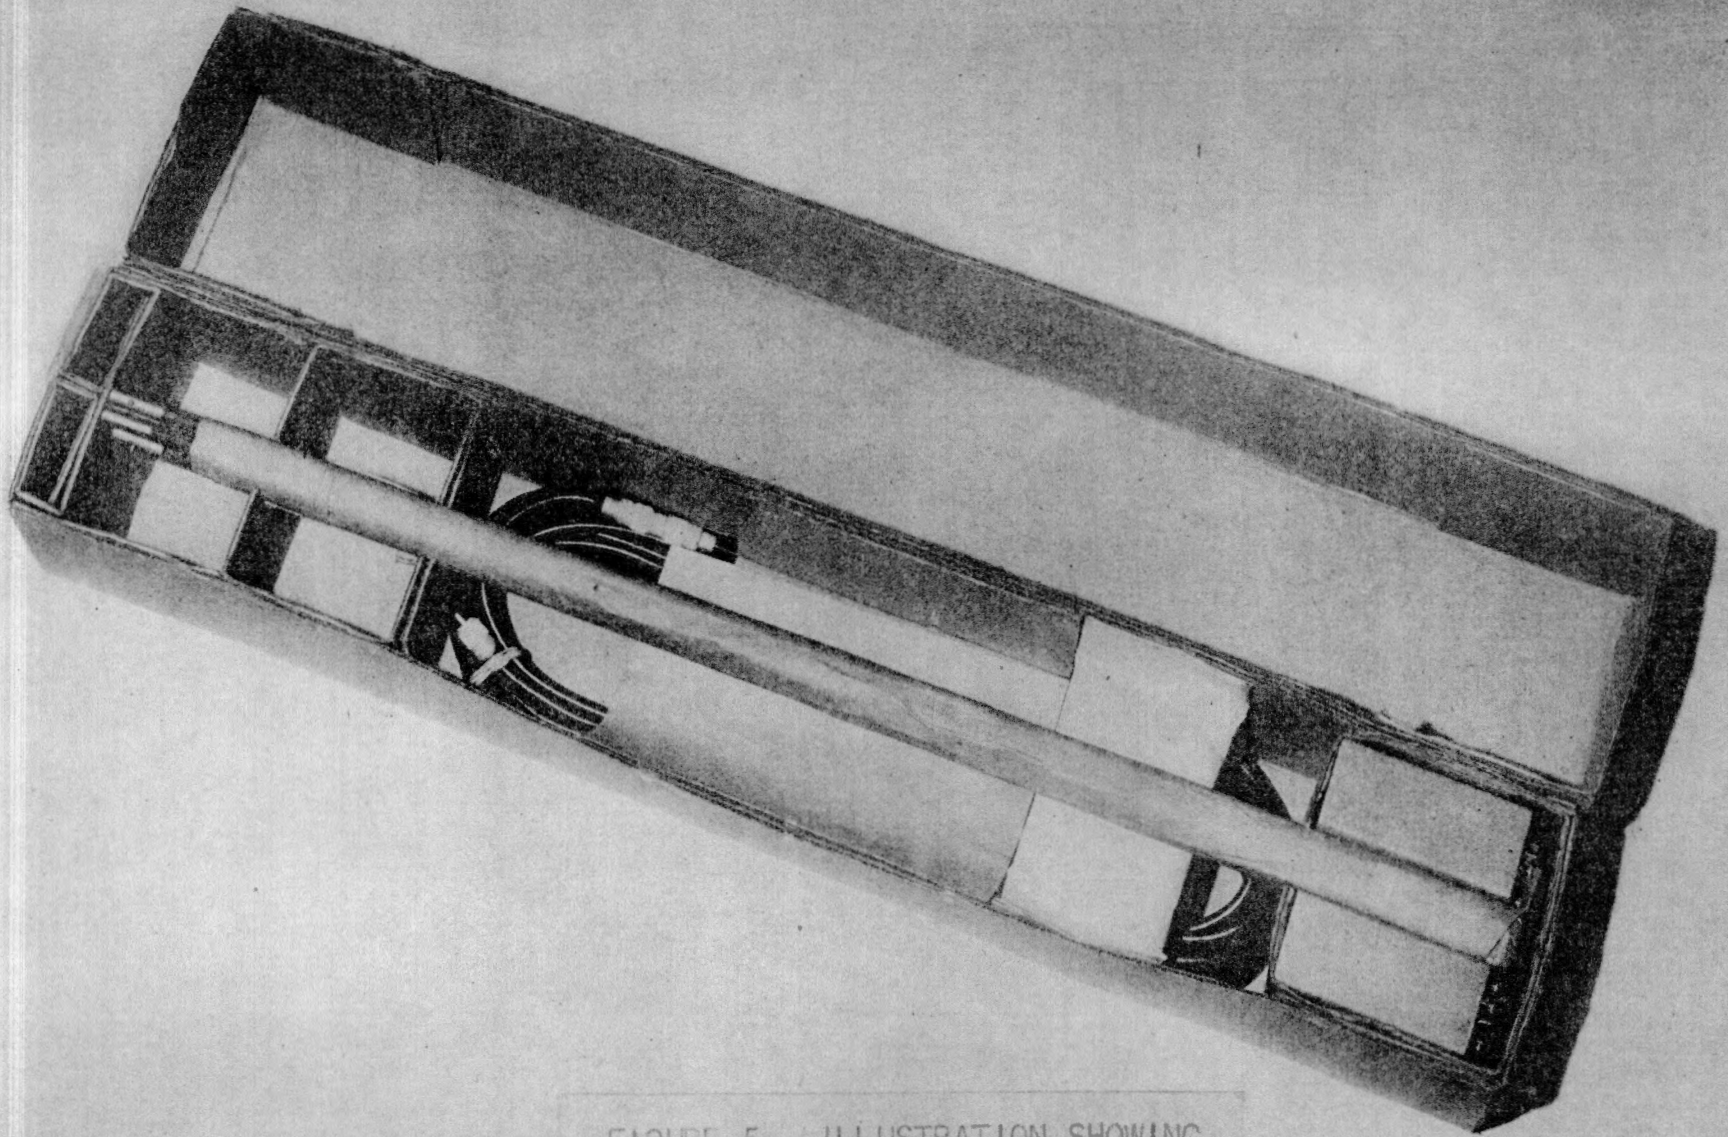

FIGURE 5. ILLUSTRATION SHOWING
- Figure 5. Illustration showing method of shipment and packing.